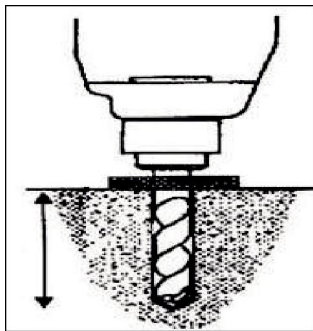

Fig. 16
- Drive a $\Phi 18$ percussion bit to 160 mm depth in the ground from the holes on the baseplate with an electric hammer (Fig. 16), and clean the hole.